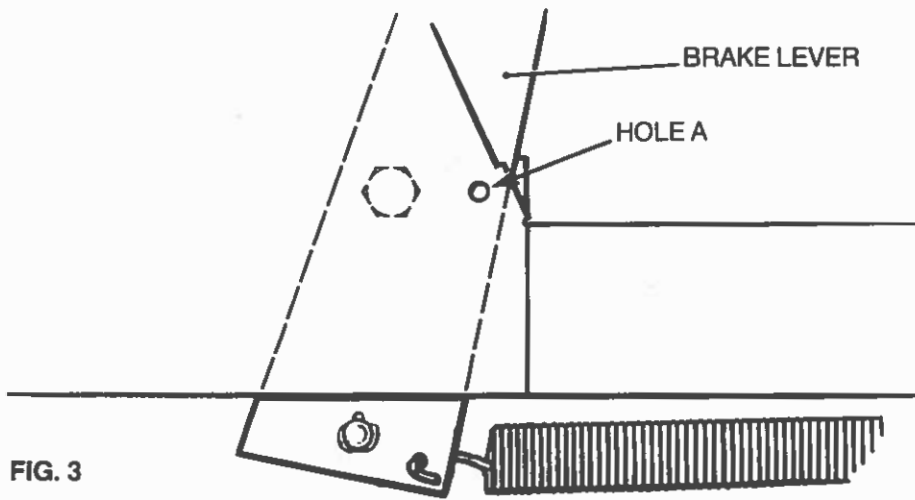
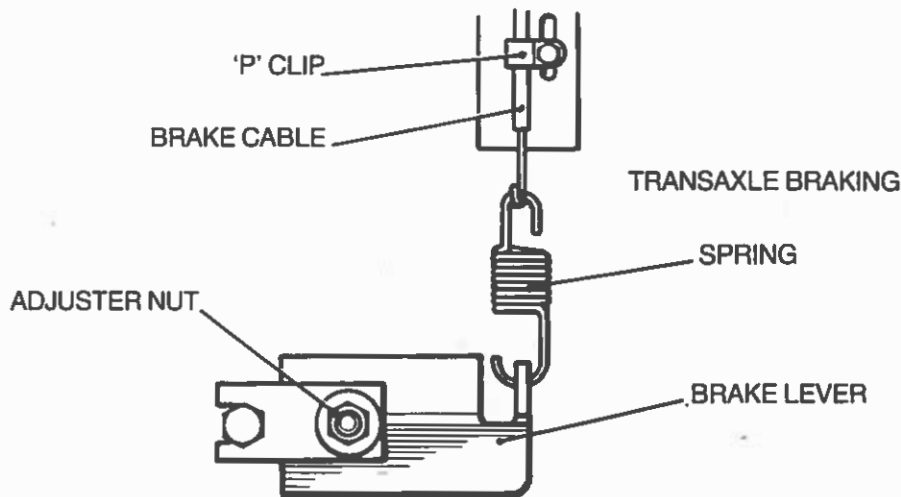

FIG. 3
FIG. 4
2. Foot Brake (Refer to Fig. 3 and Fig. 4)
- d) Depress clutch/brake pedal half way and retain in this position by placing a bolt or screwdriver in hole "A". (FIG. 3).
- b) Tighten adjuster nut lightly to take up slack in brake lever. (FIG. 4).